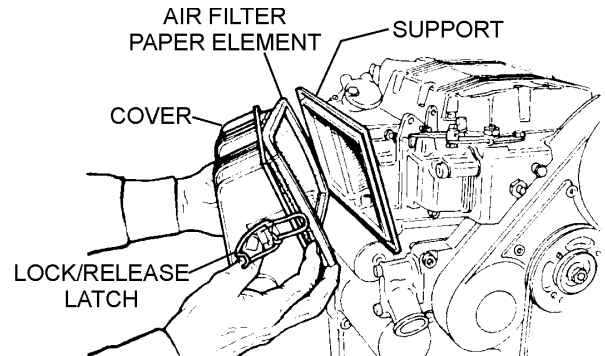

Figure 23. Air Cleaner Components
1. Release the locking latch and remove the air filter paper element as shown in (Figure 23).